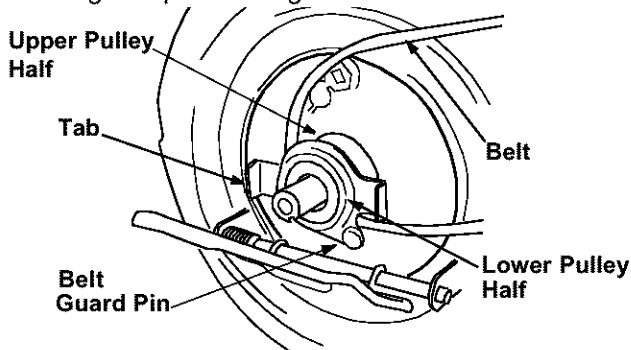

Figure 18
- Place belt between the two pulley halves on the crankshaft. Make sure to route the belt inside the belt guard pin. See Figure 18.